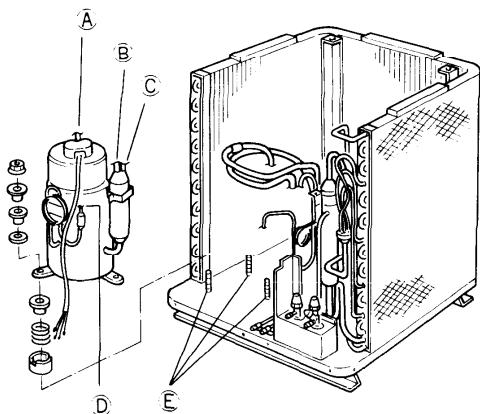

Fig. D-13
Take apart four joints (A) (B) (C) and (D) brazed to the compressor by brazing torch (See Figure D-13)